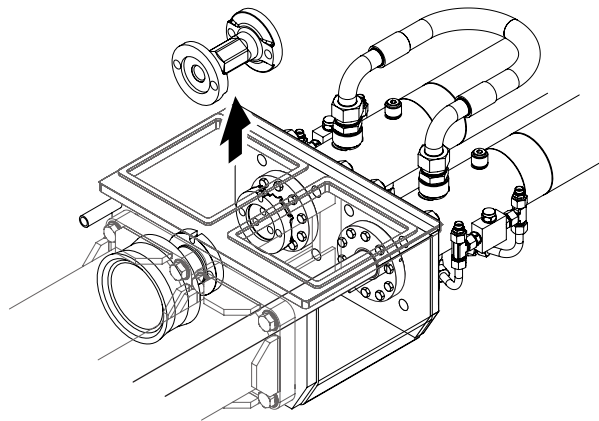

Figure 18
7. Remove the spacer coupling from the waterbox (Figure 18).